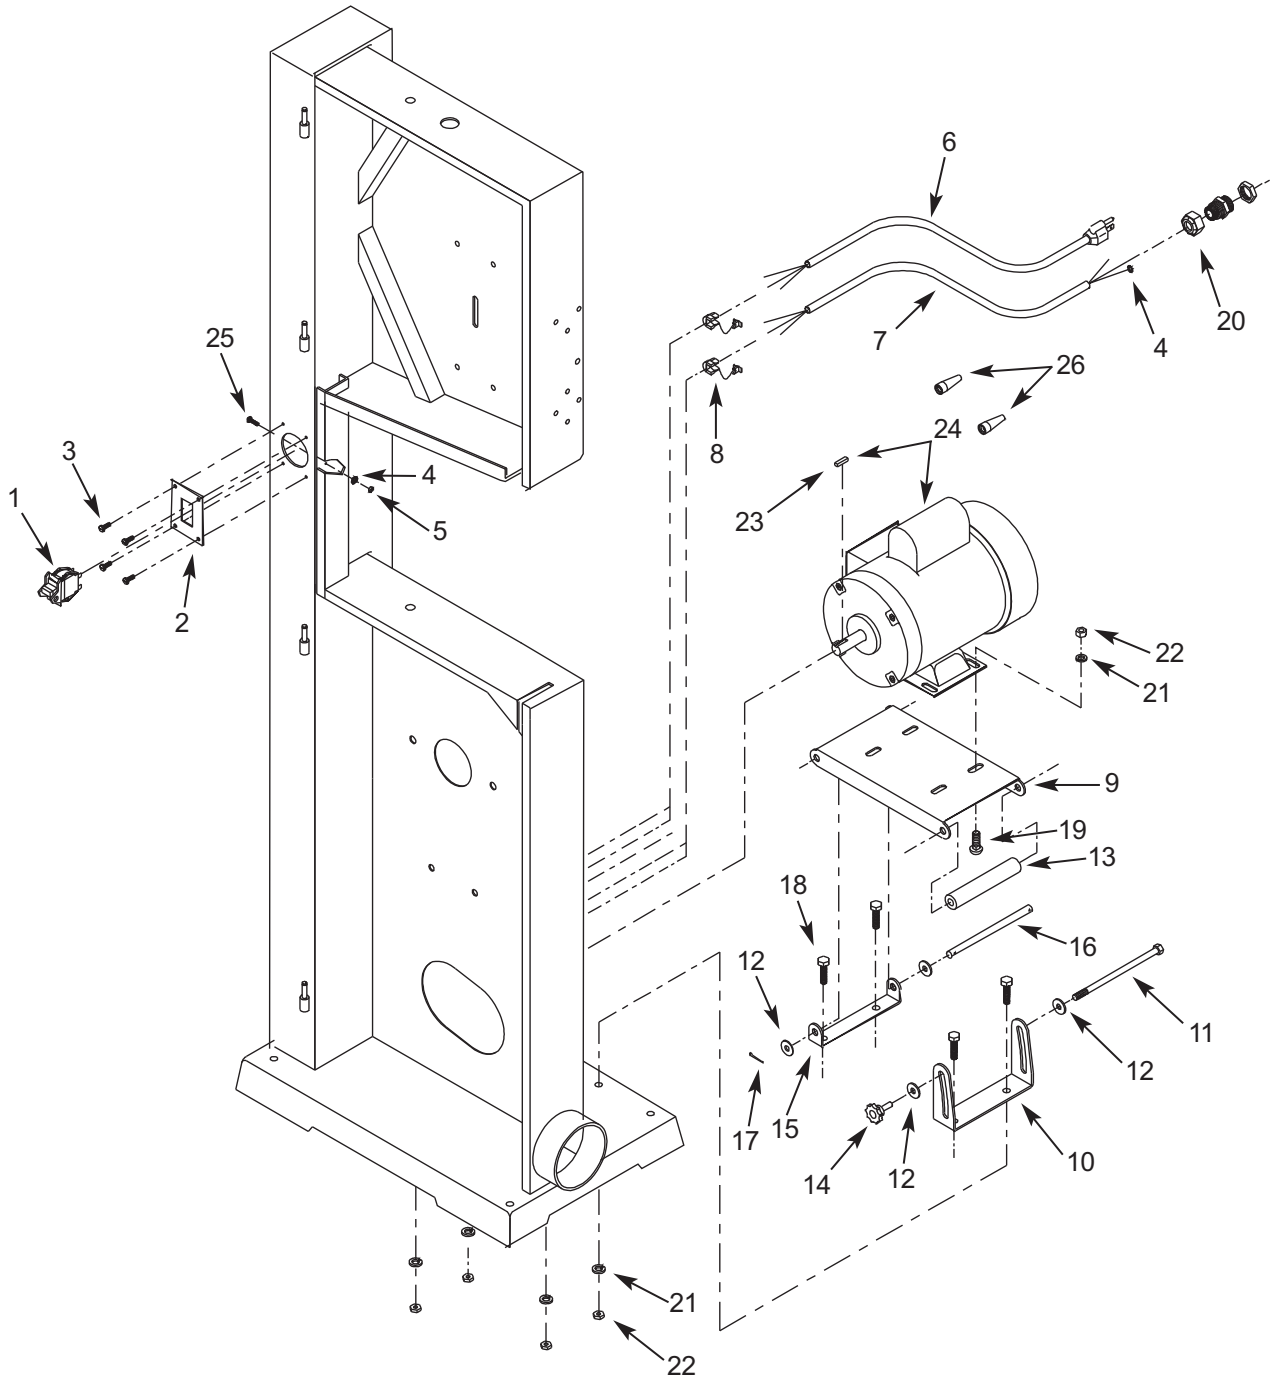

Figure 5 – Repair Parts Illustration for Motor
- To change blade speed, loosen motor mount plate (Figure 5, Ref. No. 9) by loosening hex nut on hex head bolt (Figure 5, Ref. Nos. 14 and 11).